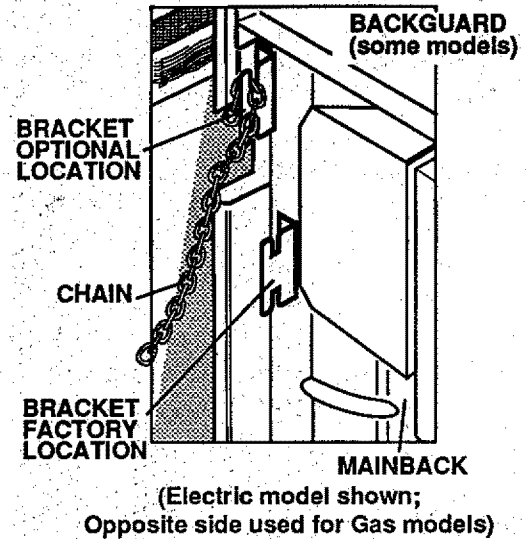

Fig. 1
When the range is elevated to the maximum height, there is a large space between the bottom of the range and the floor, referred to as the toe space. This may be visually objectionable. The legs should not be extended any further than to provide a maximum of 3" toe space. See Fig. 1.
After the range is installed with the longer legs and is in position and level, measure from the bottom of the bodyside to the floor. This will be the required height of the toe space filler. See Fig. 1. This height may range from 2 1/16" to 3". Any height less than 2 1/16" may not be visually objectionable and not need the filler.
1) Before placing range in the counter, notice the location of the stability bracket which is already attached to the back of the range. This location should work for most installations. However, it may be more convenient to hook the stability chain to the unit when the stability bracket is attached to the upper set of holes in the back of the range (See Fig. 1). The upper set of holes are intended for use with a backsplash kit. If a backsplash kit is being used, the stability bracket can be relocated and put on at the same time as the backsplash kit. If the backsplash is not being used, make sure that there are no structural supports for the counter top which will interfere with the stability bracket when located in the upper set of holes.
5) Hook the loose end of the chain onto the bracket by slipping the nearest link of the chain into the slot in the bracket (See Fig. 1), making sure the chain is pulled as tight as possible and that there is no excess slack in the chain after chain is attached to the bracket.